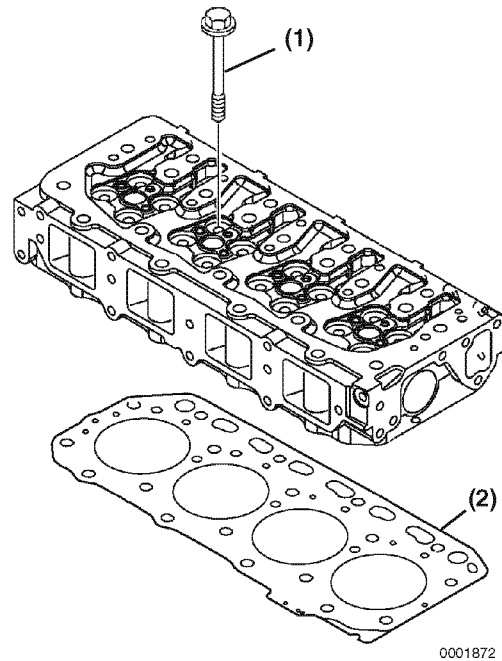

Figure 6-47
2. Remove the cylinder head bolts **(Figure 6-47, (1))**.
3. Lift the cylinder head away from the cylinder block. Discard the cylinder head gasket **(Figure 6-47, (2))**. Place the cylinder head on the work bench to prevent damage to the combustion surface.